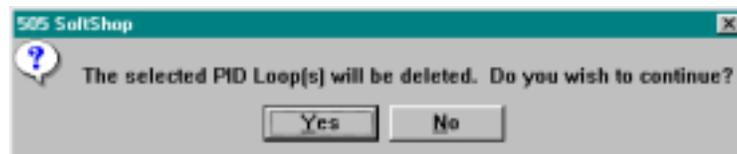

Figure 9.3
2. Select the PID Loop number that you want to delete by using the left mouse button or the Arrow keys on the keyboard. Click on the dialog box Delete button or use the keyboard to Tab to the Delete button and press Enter or (Alt+D). The following dialog box appears (Figure 9.3).